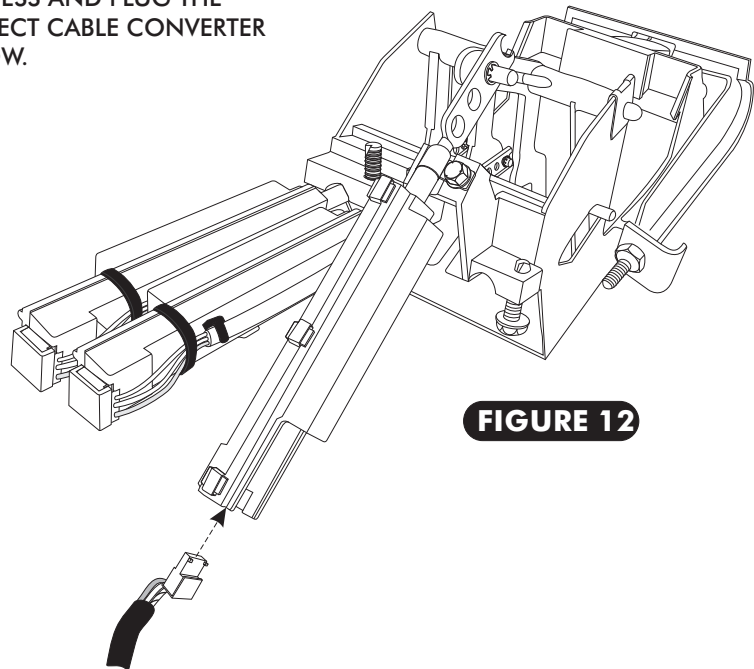

FIGURE 12
- LOCATE THE CONTROL PANEL WIRE HARNESS AND PLUG THE CORRESPONDING WIRES INTO THE CORRECT CABLE CONVERTER ASSEMBLY AS SHOWN IN FIGURE 12 BELOW.